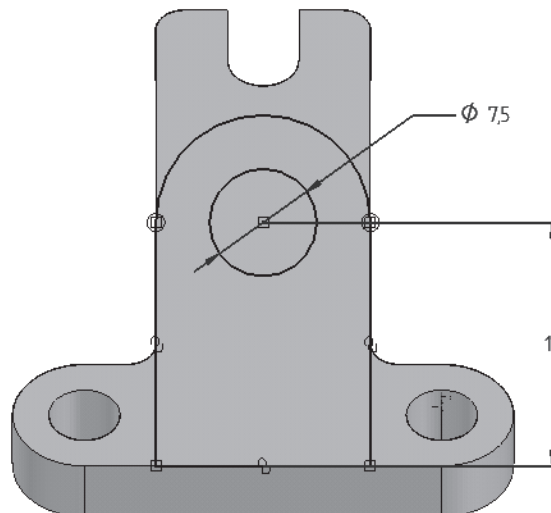

Figure 5-52 Profile for the second feature
- b. Define a new reference plane at an angle of 45-degrees to the right edge of the base feature and use it to draw the profile for the second feature, refer to Figure 5-52.
9. Trim and extend the projected entities using the sketching tools and then draw a tangent arc to complete the profile of the base feature, refer to Figure 5-52.
10. Add a circle to the profile and then add the required dimensions to the profile and the circle, as shown in Figure 5-52.